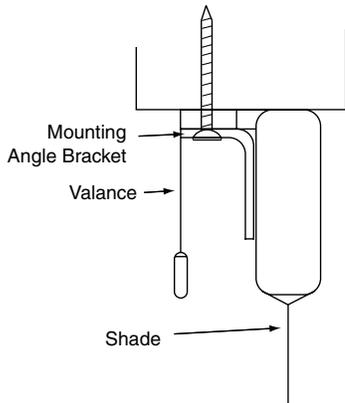

Figure 2
- ② For header or ceiling installation, use angle brackets (see Figs. 2 and 3). Angles may be factory installed on front or back of top slat on approximately 30" centers.